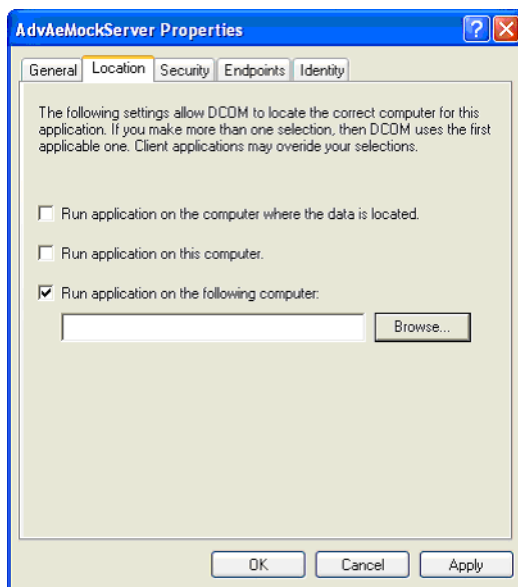

Figure 340. Properties
4. Select the Location tab and deselect the **Run application on this computer** check box. Select the **Run application on the following computer** check box and browse to the machine where the OPC AE server should be instantiated. See Figure 340.